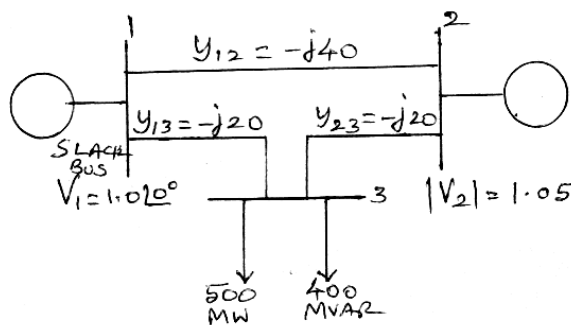

Figure 16 (a)
16. (a) Figure 16 (a) shows the one line diagram of a simple three bus power system with generation at buses at 1 and 2. The voltage at bus 1 is  $V = 1 + j0.0$  V per unit. Voltage magnitude at bus 2 is fixed at 1.05 pu. with a real power generation of 400 MW. A Load consisting of 500 MW and 400 MVAR base. For the purpose of hand calculation, line resistance and line charging susceptances are neglected.